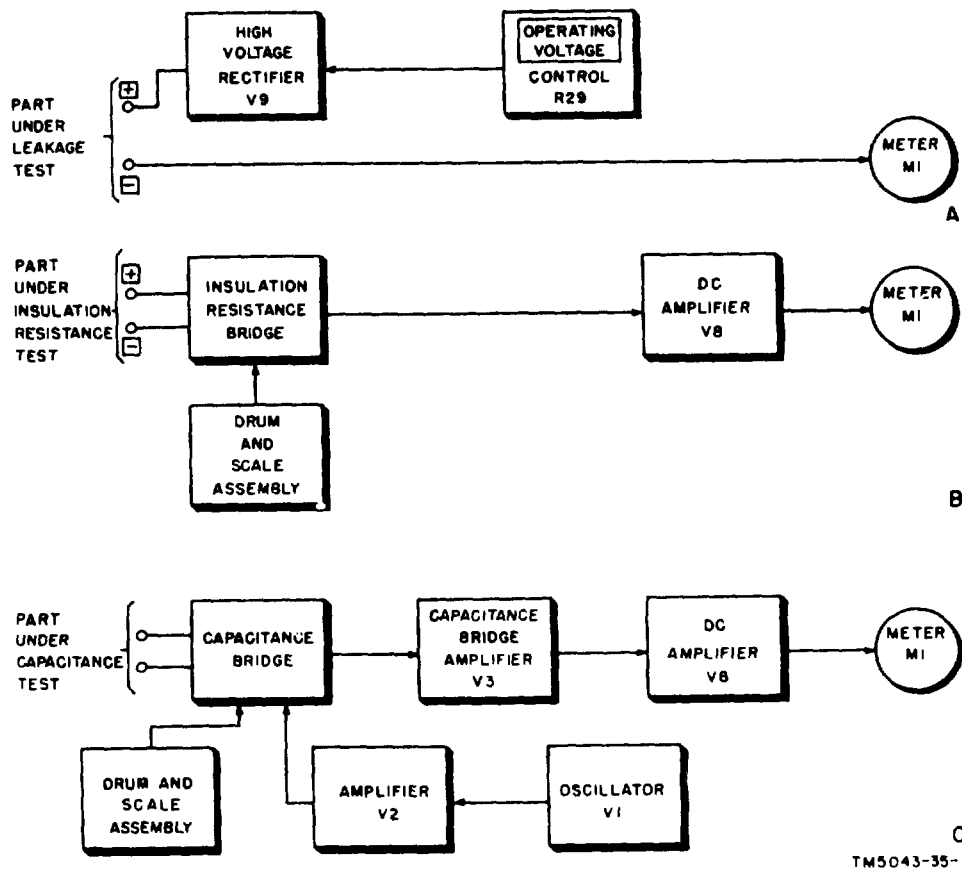

Figure 1. Analyzer ZM-3(*)/U, block diagram.
a. *Leakage Current Circuit* (A, fig. 1). The electrolytic capacitor to be tested is connected to the leakage terminals. Meter M1, connected in series with the capacitor under test and high voltage rectifier V9, indicates the leakage current of the electrolytic capacitor under test. OPERATING VOLTAGE control R29 is used to adjust the output voltage of high voltage rectifier V9 to the working voltage of the electrolytic capacitor.
b. *Insulation Resistance Circuit* (B, fig. 1). The capacitor to be tested is connected to the insulation
c. *Capacitance Circuit* (C, fig. 1). The capacitor to be measured is connected to the capacitance bridge through the capacitance terminals. Oscillator V1 supplies an alternating current (ac) voltage to the capacitance-bridge through amplifier V2. The output from the capacitance bridge is applied to meter M1 through capacitance bridge amplifier V3 and dc amplifier V8. The capacitance bridge is balanced when the drum and scale assembly is adjusted for a minimum indication on meter M1. The capacitance value can then be read from scale 2, 3, 4, or 5 of the drum and scale assembly.